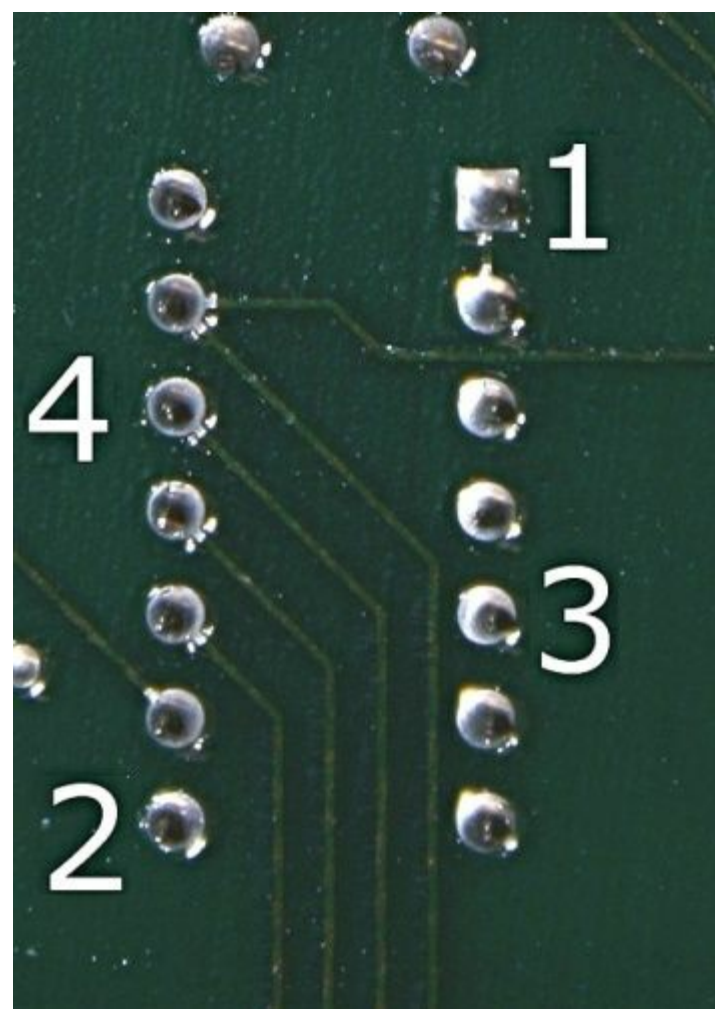

Figure 6-33
Installing a Dual-Inline-Package (DIP) integrated circuit (IC) is just like soldering an unsupported or plated through-hole component. The exception is the number of leads that must be soldered. DIPs can have as few as 4 pins to more than 40. The only new guideline is that you must not solder adjacent pins. Look at **Figure 6-33**. The pins labeled 1 and 2 should be soldered first. If the pins are in unsupported through-holes they should be semi or fully clinched. Once these pins are soldered, skip around, go to the pins marked 3, then 4, wherever you wish but *don't solder pins next to each other*. Doing so can cause heat buildup in a small area leading to damage of the component.